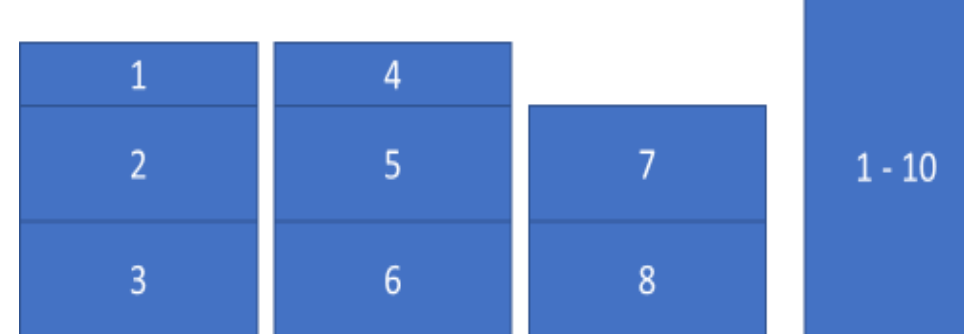
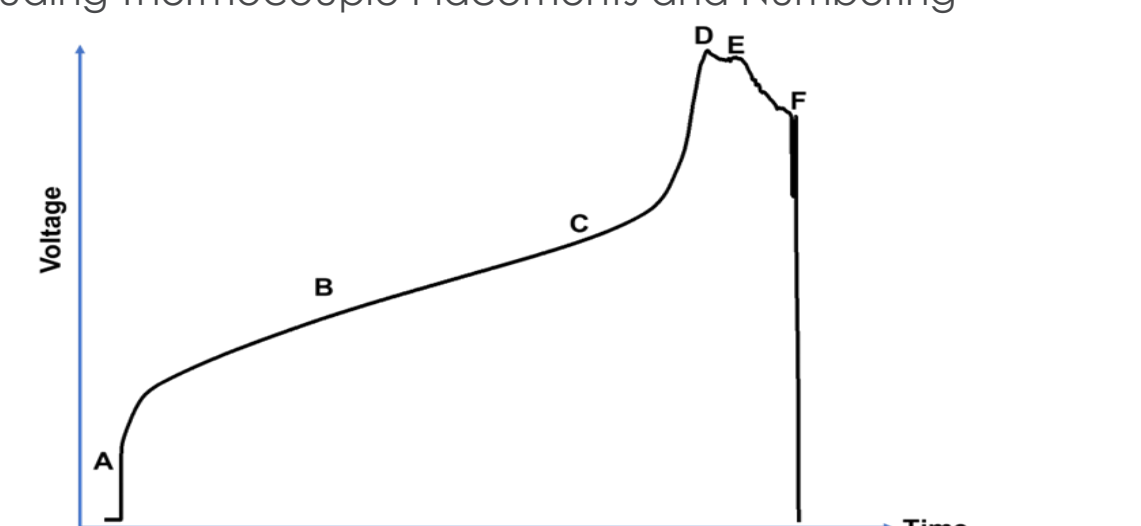

Fig.4. Side View Layout and Numbering of Modules
Fig.5. Generic representation of the voltage/time plot during overcharge.
- Overcharging events were meticulously scrutinized, revealing distinct voltage and temperature profiles, especially within module C5 (Fig.3. and Fig.4.). These profiles can be dissected into several distinct regions (Fig.5.).
- Region A was characterized by a rapid voltage increase, attributed to the internal resistance (IR) drop due to current flow. Region B displayed a gradual and sustained voltage increase, attributed to the de-intercalation of lithium ions from the NMC cathode. The inflection point, labeled C, signified the onset of lithium metal plating on the anode, a critical precursor to thermal runaway.